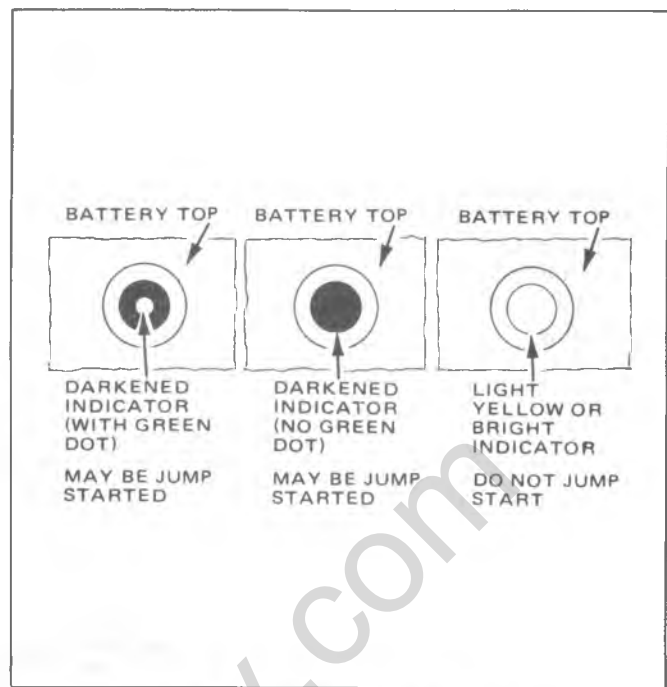

Fig. 6D-2B—Built-In Hydrometer
2. HYDROMETER CHECK (Fig. 6D-2B)